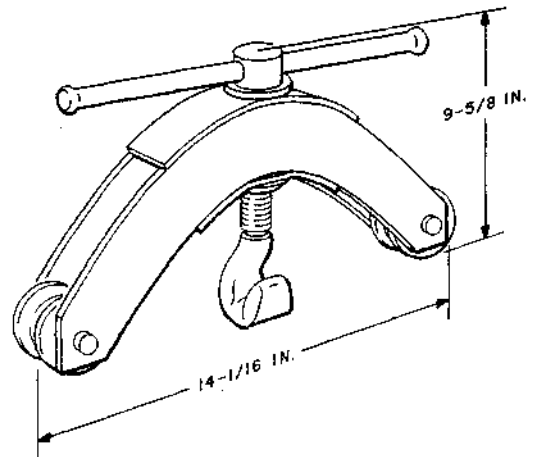

Fig. 4—C Slack Puller
3.04 The C slack puller (Fig. 4) is similar in design to the D puller, except that the lifting screw is not equipped with a stop to prevent accidental separation, and the sliding handle is not removable.